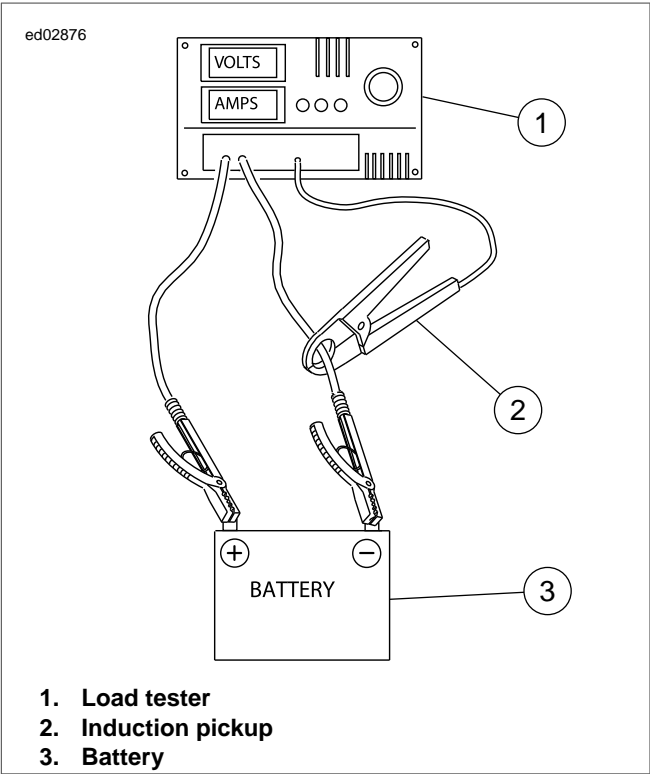

Figure 1-27. Load Test Battery
- 4. See Figure 1-27. Connect tester leads to battery posts and place induction pickup over negative (black) cable.